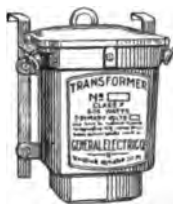

FIG. 307.—A commercial transformer.
**310. Uses of Transformers.**—In electric lighting systems, dynamos often produce alternating currents at 1000 to 12,000 volts pressure. It is very dangerous to admit currents at this pressure into dwellings and business houses, so that transformers are installed just outside of buildings to “step-down” the high voltage currents to 110 or 220 volts. The lighting current that enters a house does not come directly from a dynamo. It is an induced current produced by a transformer placed near the house. (See Fig. 307.) In a perfect transformer the efficiency would be 100 per cent. This signifies that the energy that is sent into the primary coil of the transformer exactly equals the energy in the secondary coil. The best transformers actually show efficiencies better than 97 per cent. The lost energy appears as heat in the transformer. “The transfer of great power in a large transformer from one circuit to another circuit entirely separate and distinct, without any motion or noise and almost without loss, is one of the most wonderful phenomena under the control of man.”